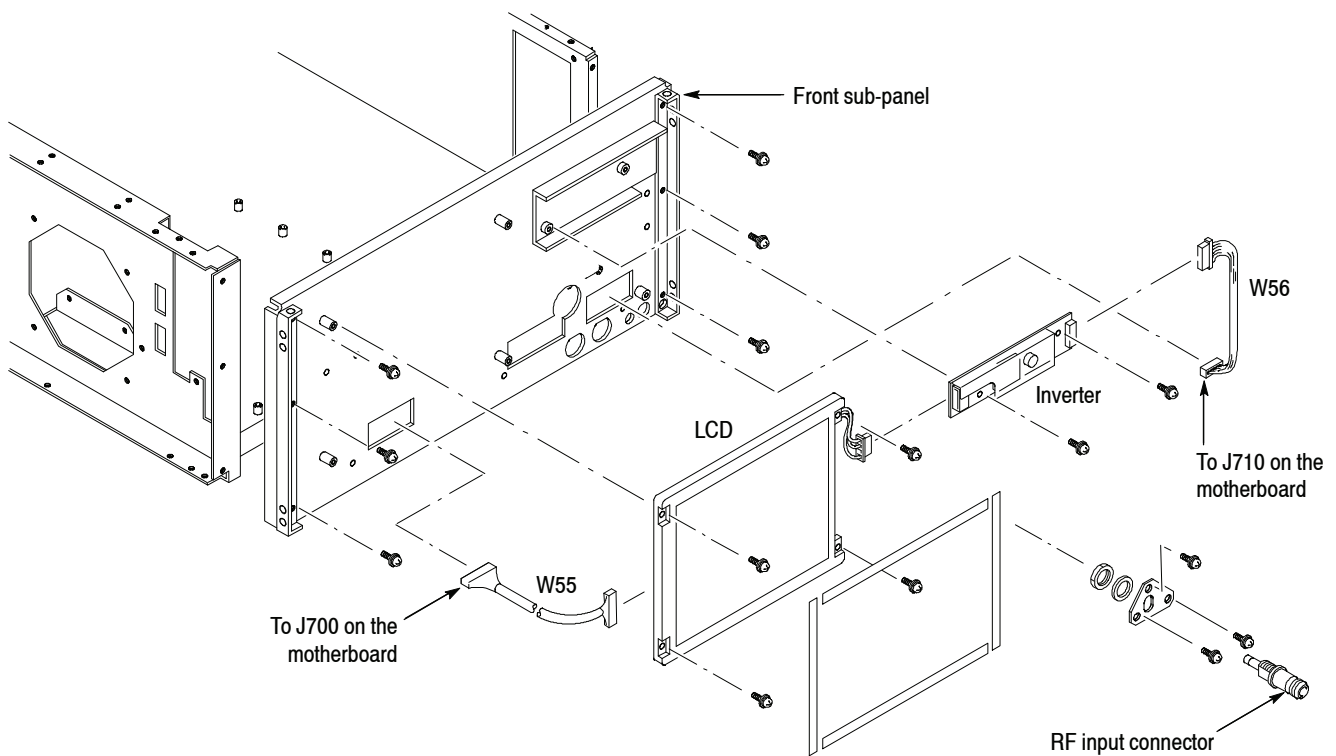

Figure 5-30: LCD display removal
3. *Remove the RF input connector:* See Figure 5-30.
3. *Remove the inverter:* See Figure 5-30.
4. *Remove the LCD display:* See Figure 5-30.